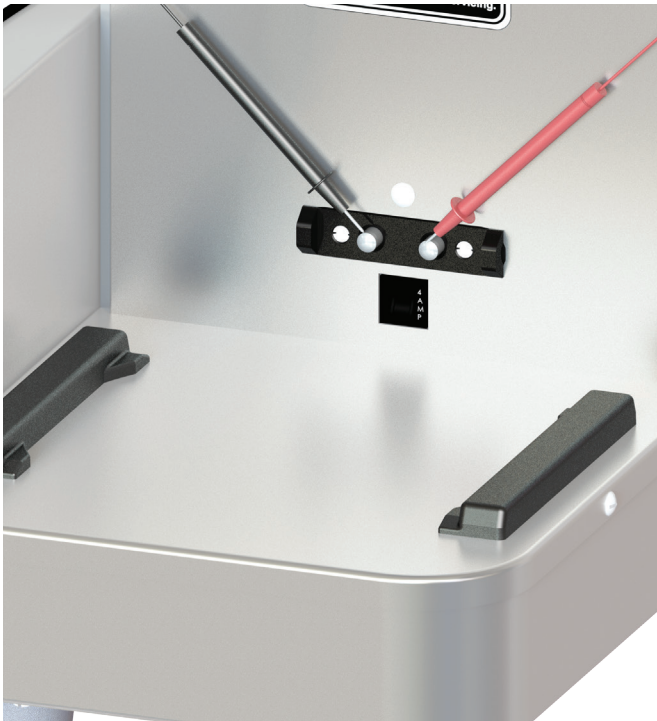

FIG. 23-1 SOFTHEAT CONTACTS
3. Set meter to DC 24 volts scale. Check for 24VDC between the right (+) and left (-) terminals. Fig. 23-1.